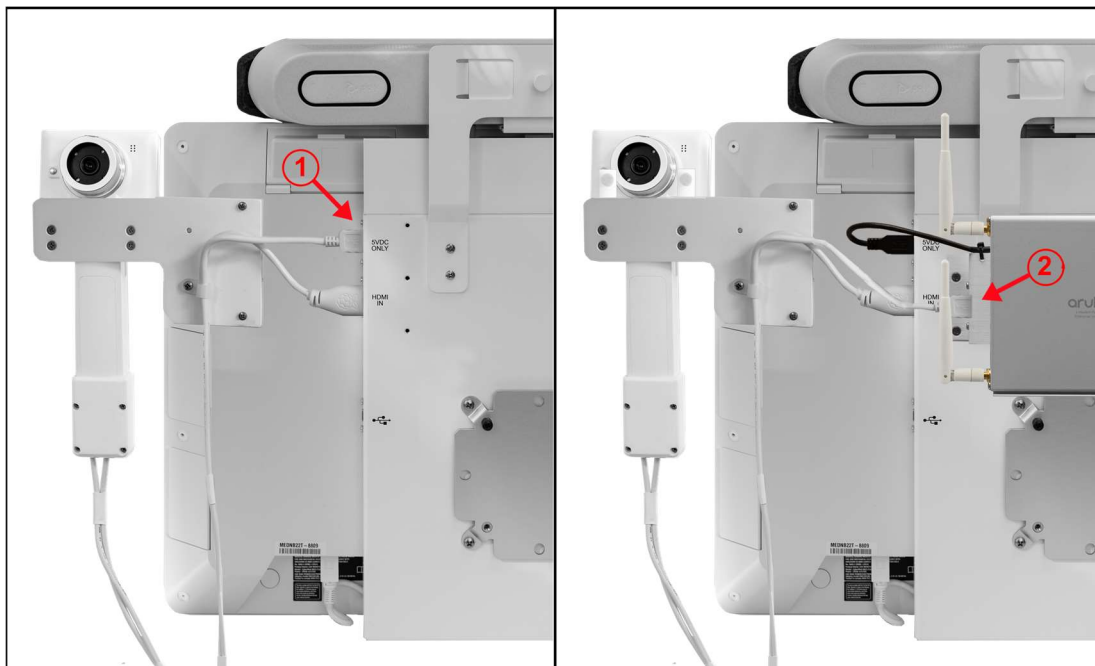

Figure 29. Horus Scope Cabling with Aruba Bridge Installed
2. When the optional Aruba bridge is installed on the system, the “5VDC ONLY” USB port is used to power the Aruba bridge, so it is necessary to re-route the USB power cable attached to the Horus Scope 3 to the USB female port on the side of the Aruba mounting bracket as shown in figure 29 above.